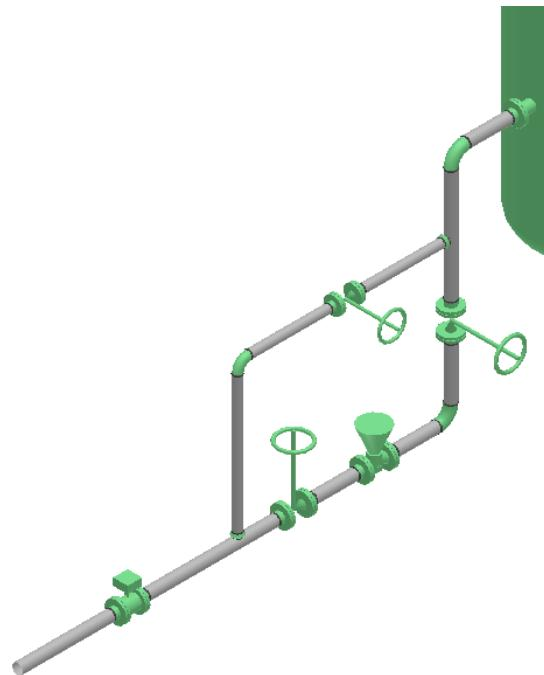

Figure 46: Placed Instrument
30. Click **Finish** on the **Insert Component** ribbon to place the instrument, as shown in Figure 46.